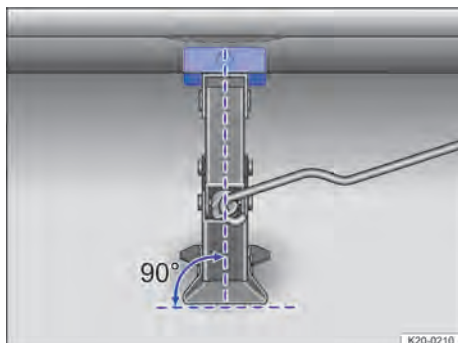
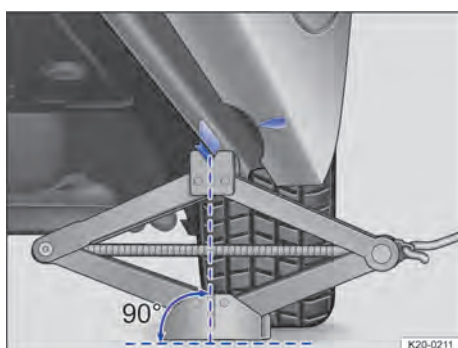

Fig. 216 Correct alignment of the jack.
Fig. 217 Correct alignment of the jack.
4. Make sure that the entire surface of the foot of the jack is resting securely on the ground and that it is positioned vertically directly beneath the jacking point → Fig. 216 and → Fig. 217.
5. Position the jack and simultaneously continue to crank the claw up until it is in position around the jacking point underneath the vehicle → Fig. 217.
- Fit the jack only at the described jacking points. The jack claw must grip the vertical rib under the door sill securely → Fig. 217.